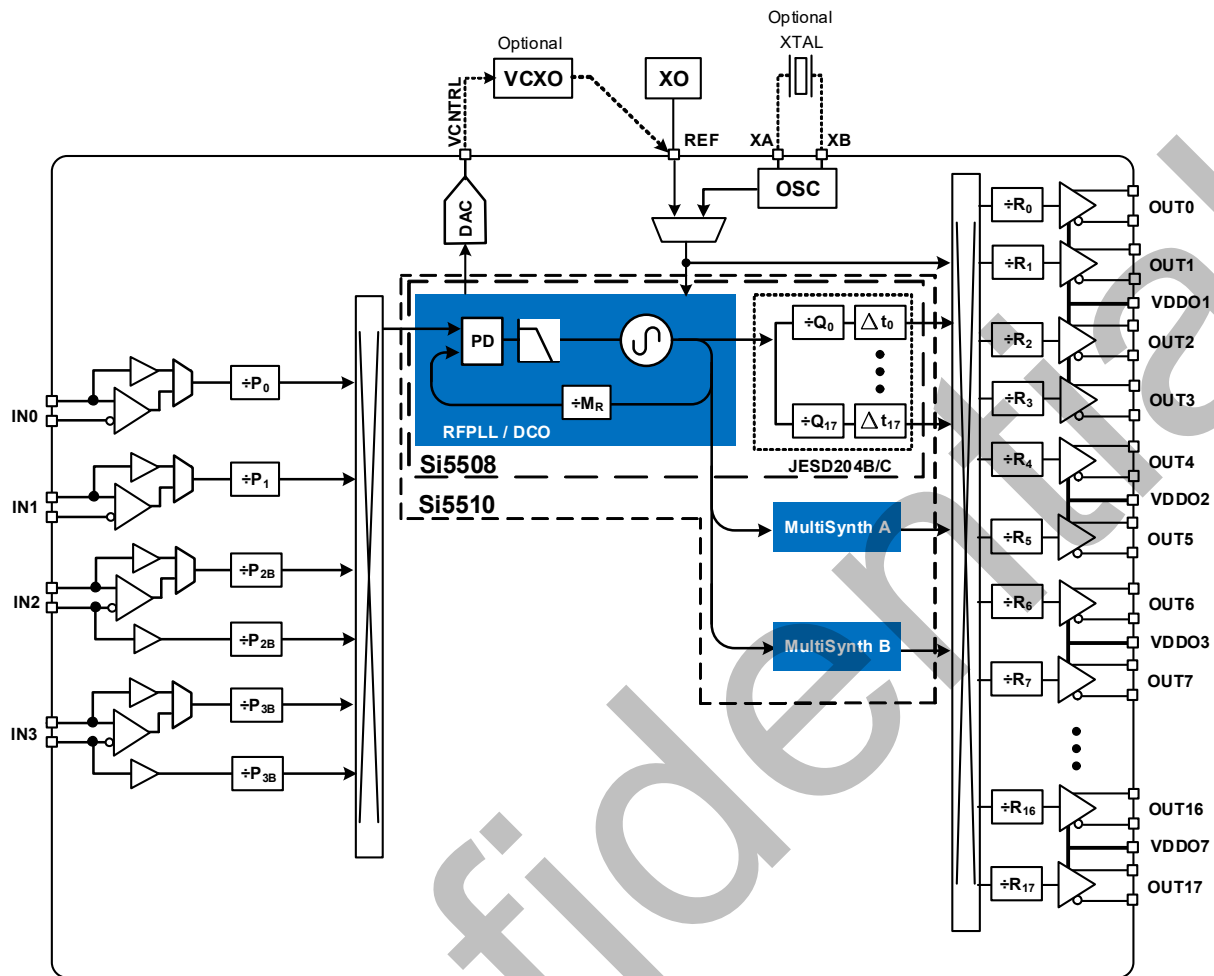

Figure 5. Single Reference Mode
The Si5510/08 operates from either an external crystal oscillator (XO) connected to the REF\_IN pins or with an optional fixed-frequency crystal (XTAL) connected to the XA, XB pins. The internal oscillator (OSC) combined with a low cost external XTAL produces an ultra-low jitter reference clock for the RFPLL. When using an external XO, it's important to select one that meets the jitter performance requirements of the end application. Alternatively, the device can operate with an external voltage-controlled crystal oscillator (VCXO). Operating the device with only an XO or XTAL, or with only a VCXO is referred to as single reference mode, as shown in Figure 5, "Single Reference Mode," on page 13. The low phase noise reference XO/VCXO or XTAL is connected to REF\_IN or XA/XB.